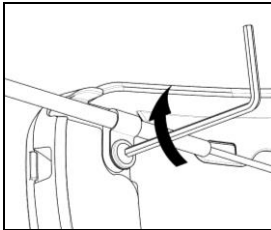
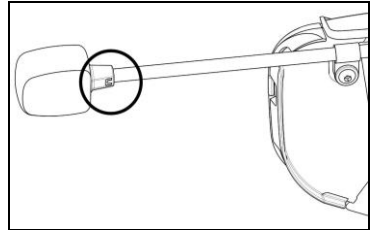

Fig. 36
Fig. 37
- Position the microphone on the left side of the helmet, screwing in the screw in the small shell frame (Fig. 36). Make sure that the side of the microphone with the caption "n" is facing the inside of the helmet (Fig. 37).